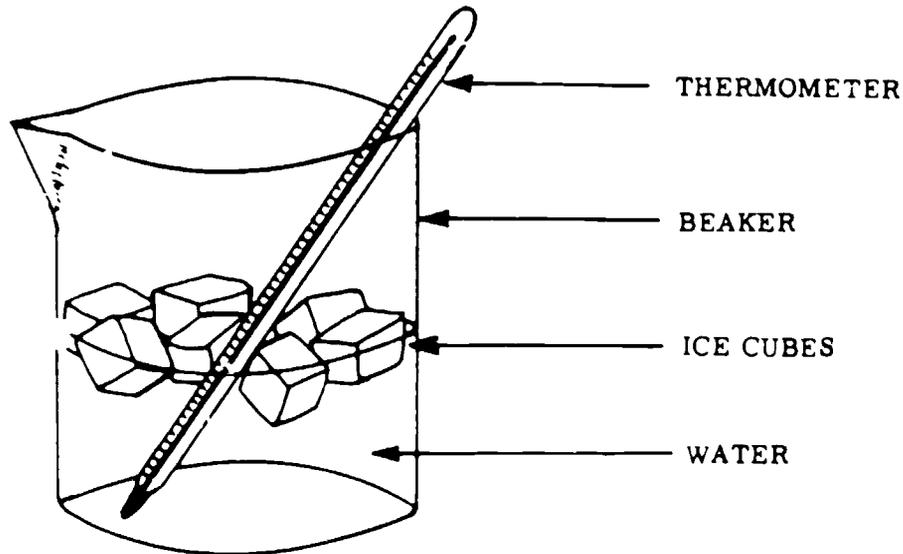

Figure 1. Determining Freezing Point of Water
- a. Pour water into a beaker until it is 1/4 full (see figure 1.)